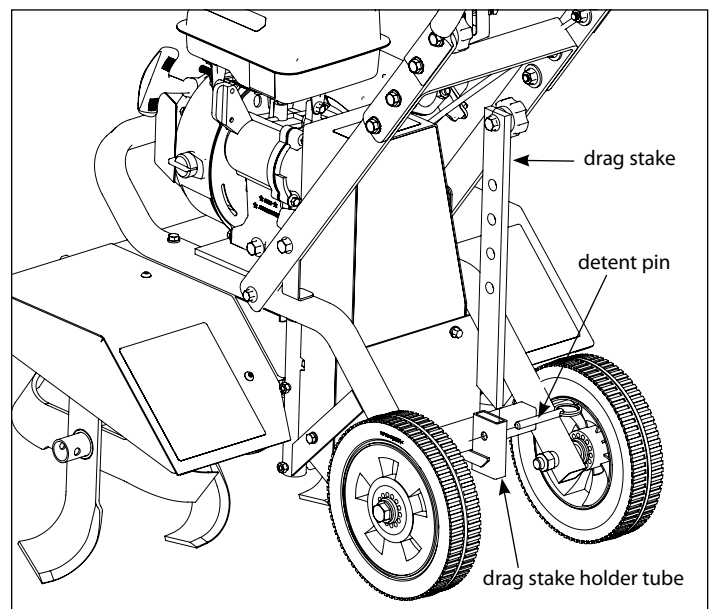

Figure 6
7. Install the drag stake assembly from the top down through the drag stake holder tube on the tiller frame between the wheels. Lock the drag stake in place using the detent pin that is already affixed to the drag stake holder tube. **SEE FIGURE 6.**